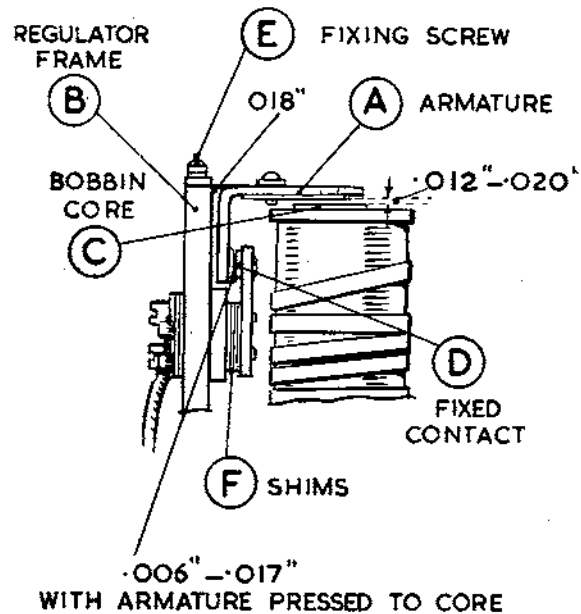

Fig. N.14.
- (i) Slacken the two armature fixing screws "E" (Fig. N.14). Insert a .018 in. (.46 mm.) feeler gauge between the back of the armature "A" and the regulator frame.
- (iii) Check the gap between the under side of the arm and the top of the bobbin core. This must be .012 in. to .020 in. (.30 mm. to .51 mm.). If the gap is outside these limits correct by adding or removing shims "F" (Fig. N.14) at the back of the fixed contact "D."